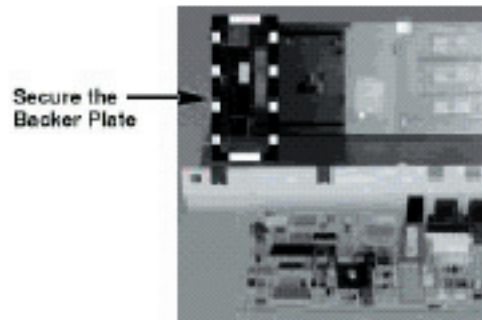

Fig. 8-5 (Left Side)
9. Secure the side backer plates to the console support (Fig. 8-5 and 8-6) so that the proper distance between the membrane switch and the console is maintained. Failure to insure the proper installation of these backer plates will result in the washer not accepting commands.